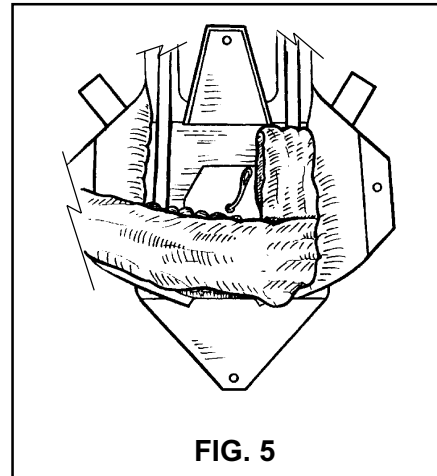

FIG. 5
6. Fold the canopy up and down the right side of the container, then make a fold across the bottom of the container, on top of the diaper or skirt (**FIG. 5**).